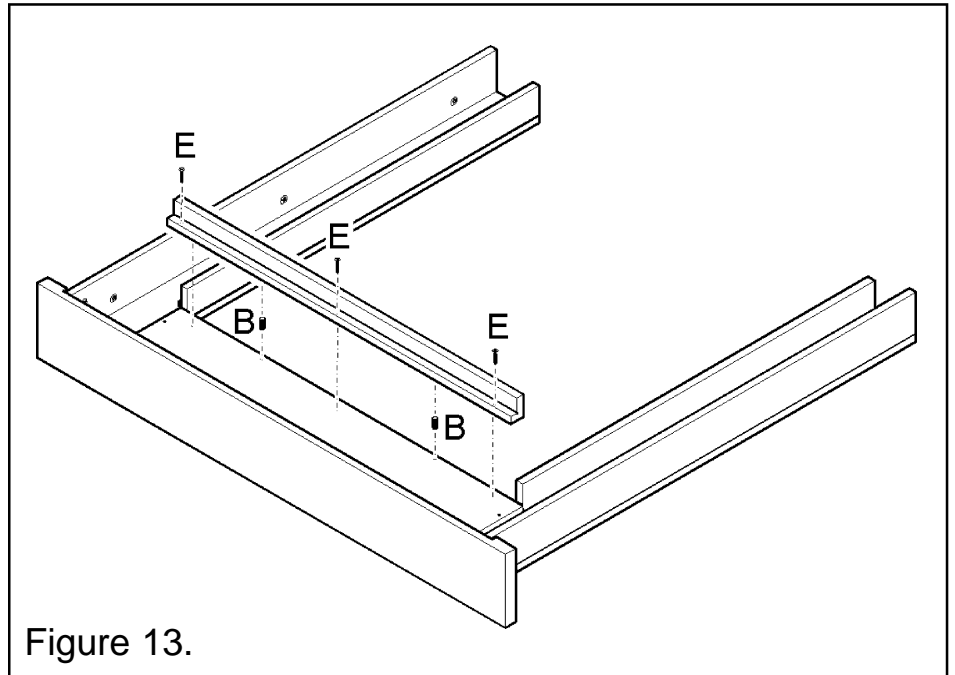

Figure 13.
- Insert two short wooden dowels into the gas top surround infill as in figure 13.
- Secure with three 25mm screws as in figure 13.